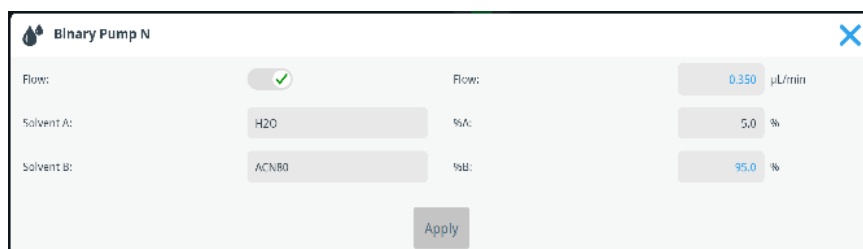

Figure 10: Vanquish Neo Binary Pump direct control panel
The Direct control (DC) panel can be accessed by clicking on the respective module box. Whereas the box shows the current value, the DC window typically shows the nominal window. The direct control options available for the Vanquish Neo Binary Pump are shown in Figure 10 below.